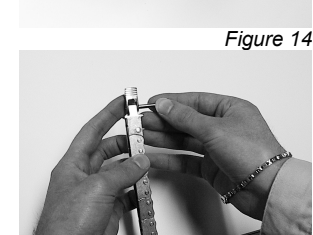

Figure 14
- Bore holes into the window frame at the points indicated (fig. 14).